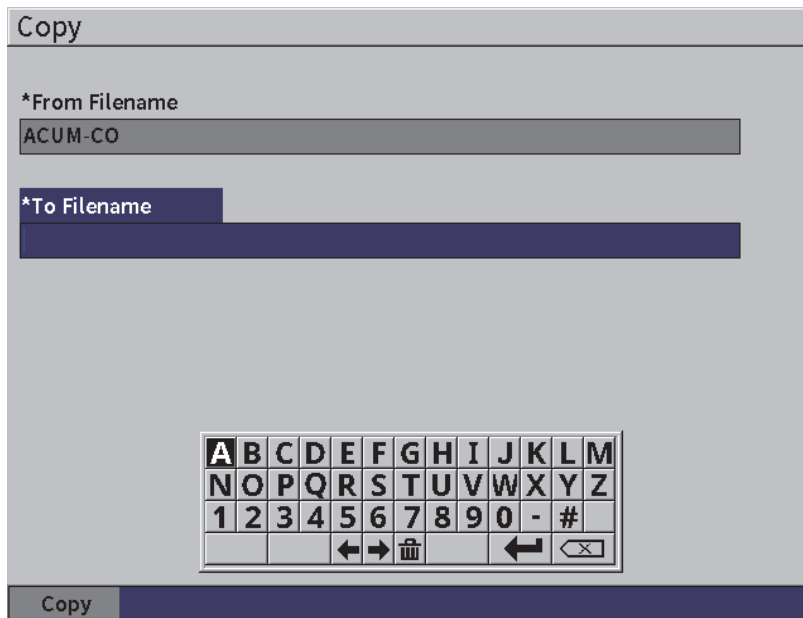

Figure 9-15 Copy setup page
2. Press the Enter key to open the **Copy** page (see Figure 9-15 on page 140).